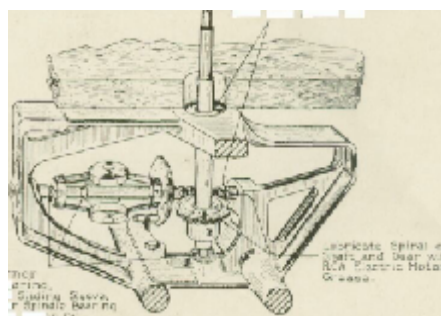

Fig. 7. Turntable Motor Oiling Diagram
**Turntable Motor**—The motor should be kept clean and should be lubricated at least once every six months, by applying RCA Motor Oil and RCA Electric Motor Grease at the parts shown in Fig. 7.